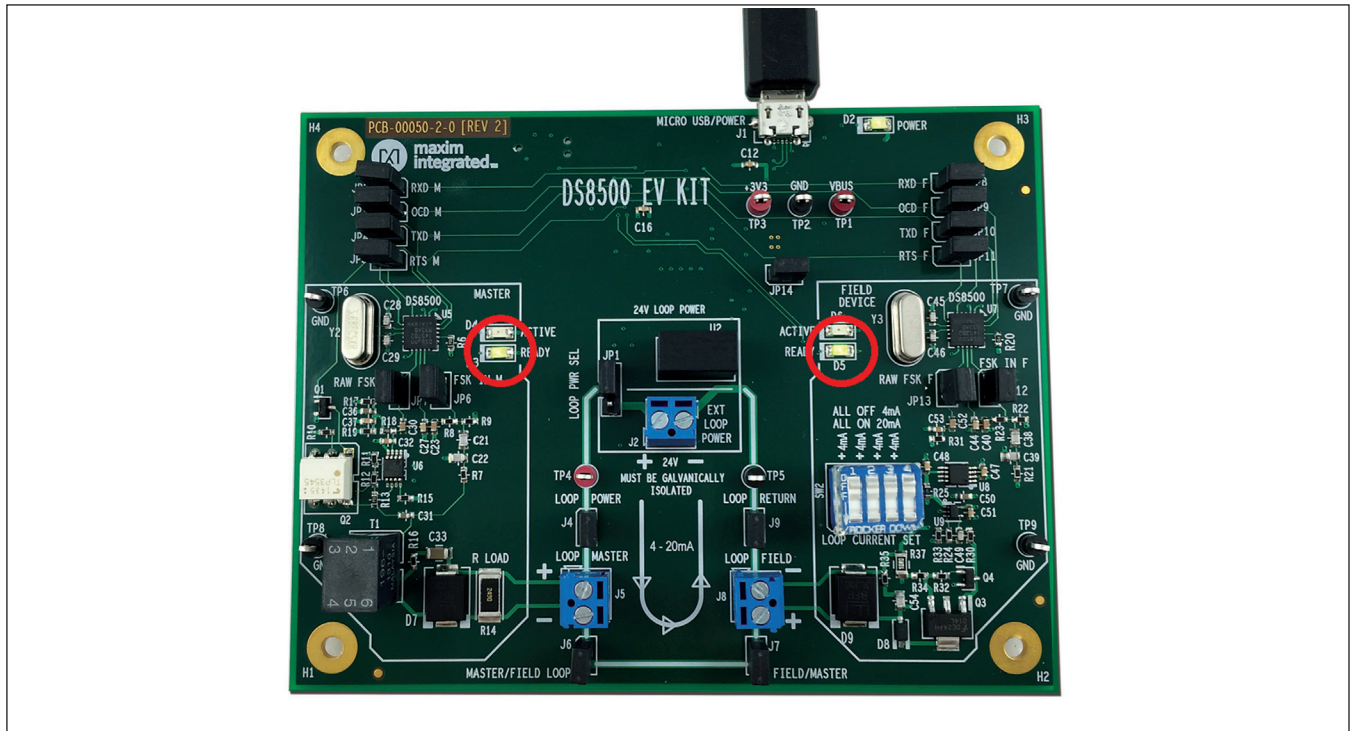

Figure 1. USB Connection and READY LEDs
- 2) Use the included Micro-USB cable to connect and power the EV kit as shown in Figure 1.
- 3) Wait until the READY LEDs (circled in Figure 1) light after the board has finished USB enumeration. This can take several seconds.